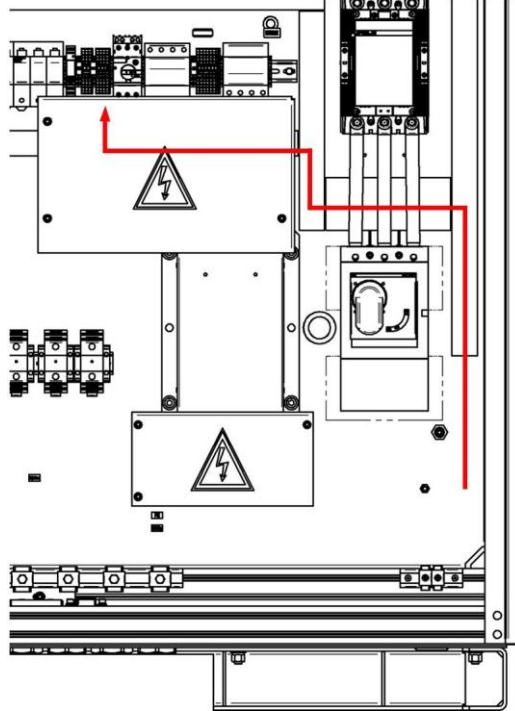

Figure 20: Cable routing terminal strip (-X17)
1. **Locate** the terminal strip (-X17) (Figure 20).